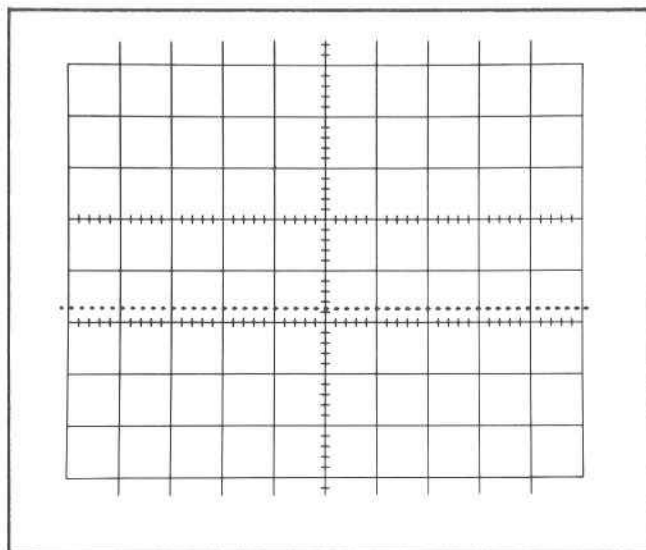

Fig. 6-39. Typical CRT display for intensity modulation check (step 45).
- The trace should appear as a broken line or row of dots (see Fig. 6-39). It may be necessary to turn the INTENSITY control slightly counterclockwise to obtain this display.